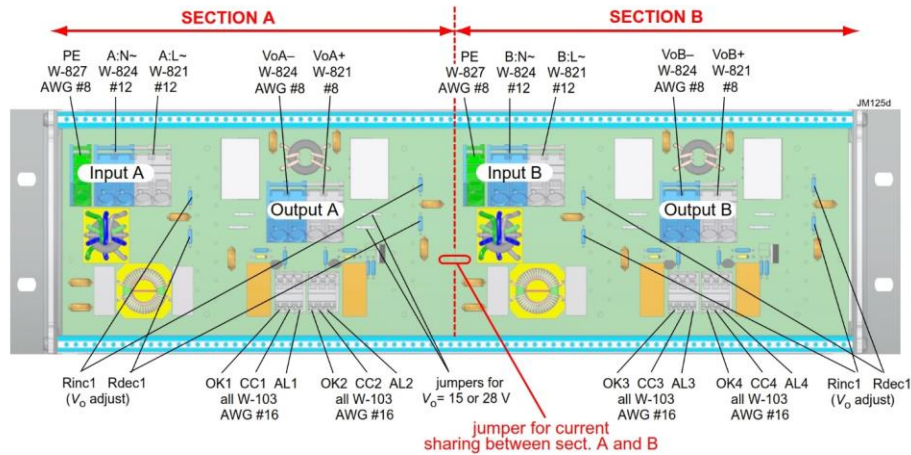

Fig.1. LRS System Backplane
1 See Fig.1 for the position of the jumpers for converter output connections.
The control input R (pin 16) allows for adjusting the output voltage by means of an external resistor. When pin 16 is not connected, the output voltage is set to  $V_{0\text{ nom}}$ . If the converters are inserted in the rack, use  $R_{\text{inc}}$  or  $R_{\text{dec}}$  according to Fig. 1.
**either** between pin 16 and pin 14 ( $V_0 < V_{0\text{ nom}}$ ) to achieve an output voltage adjustment range of approximately 0 – 100% of  $V_{0\text{ nom}}$ . If the converter is in the rack, use **Rdec** (fig. 1).
**or** between pin 16 and pin 12 ( $V_0 > V_{0\text{ nom}}$ ) to achieve an output voltage adjustment range of 100 – 110% of  $V_{0\text{ nom}}$ . If the converter is in the rack, use **Rinc** (fig. 1).